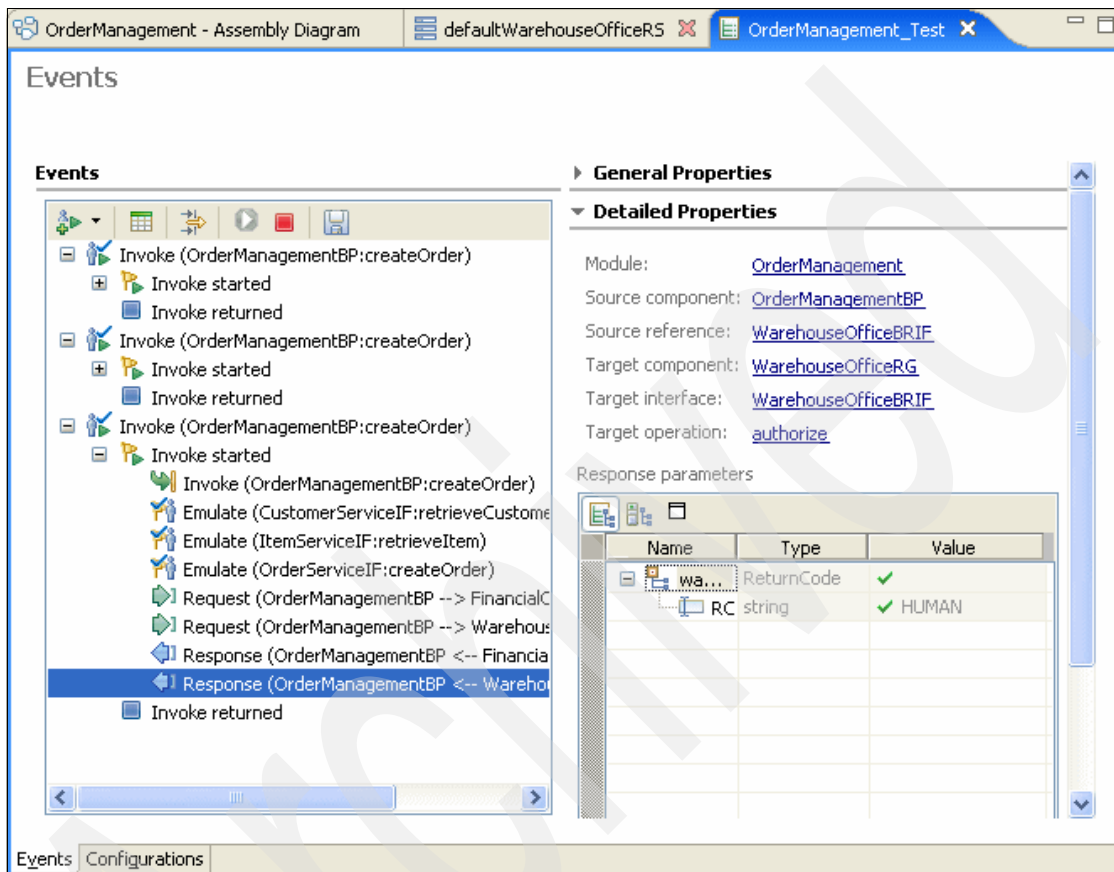

Figure 3-121 Human use case with both rules implemented
9. You can also step into your Invoke Steps and click the response from the Warehouse Rule to verify your return code from the rule group as shown in Figure 3-121.